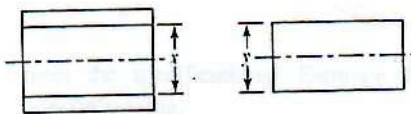

FIGURE 6.28 Parts for Exercise 6.34.
6.34. Two parts are assembled as shown in Figure 6.28. Assume that the dimensions  $x$  and  $y$  are normally distributed with means  $\mu_x$  and  $\mu_y$ , and standard deviations  $\sigma_x$  and  $\sigma_y$ , respectively. The parts are produced on different machines and are assembled at random. Control charts are maintained on each dimension for the range of each sample ( $n = 5$ ). Both range charts are in control.